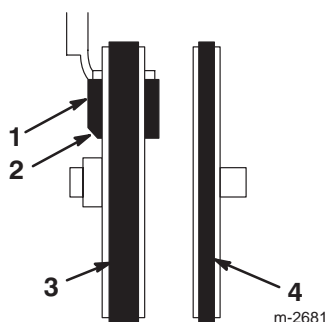

Figure 34
17. Ensure that the brake pad is properly installed on the brake arm. Position the angled cutoff on the brake pad as shown in Figure 34.
13. Ensure that the brake pad is properly installed on the brake arm. Position the angled cutoff on the brake pad as shown in Figure 34.